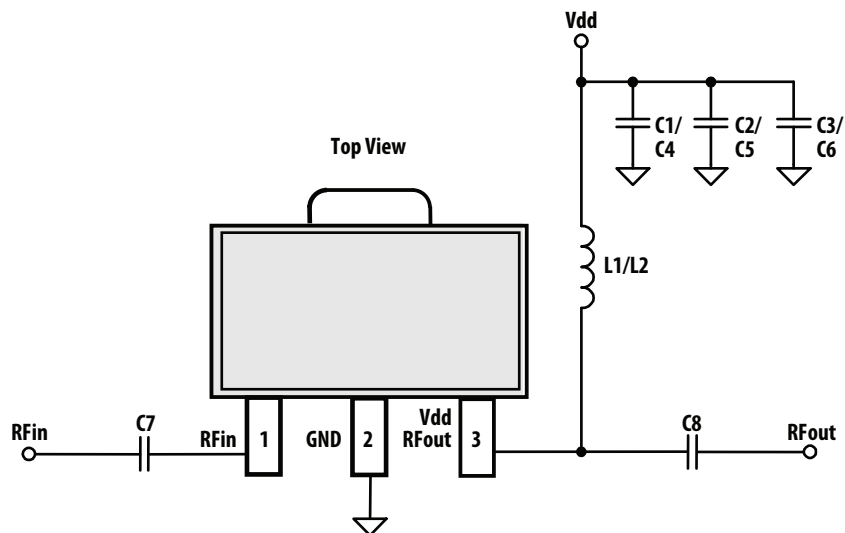

Figure 30. Application Schematic
- Measurements obtained using demo board described in Figure 30 and 31. 40MHz data was taken with 40MHz - 2GHz Application Test Circuit, 900MHz data with 0.2GHz – 2.6GHz Application Test Circuit and 1.95GHz data with 1.5GHz - 2.6GHz Application Test Circuit respectively.
$T_A = 25^\circ\text{C}$, $V_{dd} = 5\text{V}$, Input Signal=CW. Application Test Circuit is shown in Figure 30 and Table 1.
$T_A = 25^\circ\text{C}$, $V_{dd} = 5\text{V}$, Input Signal=CW. Application Test Circuit is shown in Figure 30 and Table 2.
$T_A = 25^\circ\text{C}$, $V_{dd} = 5\text{V}$, Input Signal=CW. Application Test Circuit is shown in Figure 30 and Table 3.